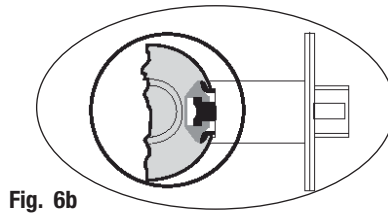

Fig. 6b
- Be sure latch engages lock body (Fig. 6b).